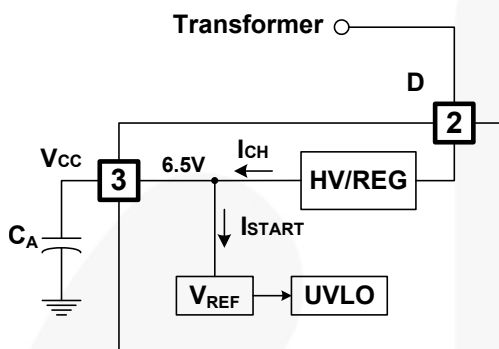
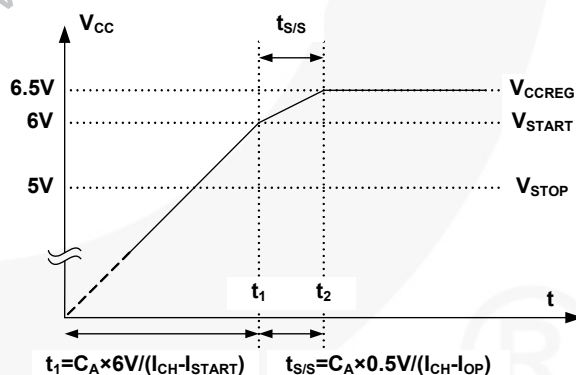

Figure 15. Startup Block
Figure 20. Soft-Start Function
1. Startup and V_{CC} Regulation: At startup, an internal high-voltage current source supplies the internal bias and charges the external capacitor (C_A) connected to the V_{CC} pin, as illustrated in Figure 15. An internal high-voltage regulator (HV/REG) located between the D and V_{CC} pins regulates the V_{CC} to be 6.5V and supplies operating current. Therefore, FSQ500L needs no auxiliary bias winding.
4. Soft-Start: The soft-start time is tuned by an external V_{CC} capacitor (C_A), which increases PWM comparator non-inverting input voltage together with the senseFET current slowly after it starts up. Before V_{CC} reaches V_{START} , C_A is charged by the current $I_{CH} - I_{START}$, where I_{CH} and I_{START} are described in Figure 15. After V_{CC} reaches V_{START} , all internal blocks are activated, so that the current consuming inside IC becomes I_{CP} . Therefore, C_A is charged by the current $I_{CH} - I_{CP}$, which makes the increasing slope of V_{CC} become sluggish. V_{CC} is shifted by 6.0V negatively (it is performed in soft-start block in Figure 2), and then $V_{CC} - 6.0V$ is an input of one of the input terminals of the PWM comparator. The drain current follows $V_{CC} - 6.0V$ instead of the V_{FB}^* because of the low-dominant feature of the PWM comparator. The soft-start time can be made long or short by selecting C_A , as described in Figure 20. During $t_{S/S}$, I_{DELAY} is disabled to avoid unwanted OLP. Typically, $t_{S/S}$ is around 4.6ms with 27 μ F of C_A .